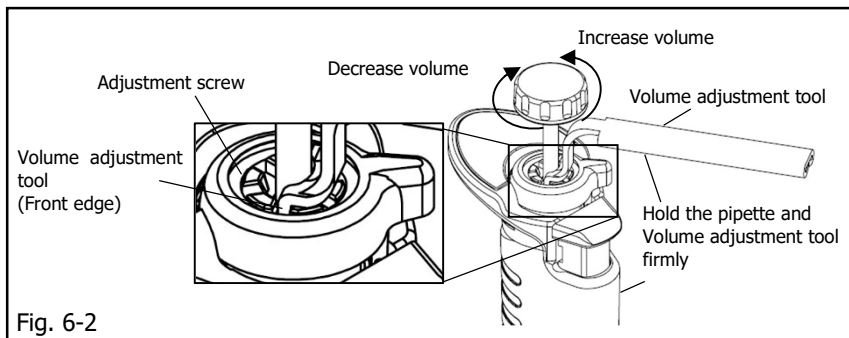

Fig. 6-2
- 4) Hold the pipette in one hand so as not to rotate the volume adjustment tool, and rotate the push button clockwise to decrease the volume for 5 μL with watching the volume indicator. (In case the actual measured dispensing volume is more than 100 μL , it shall be rotated counterclockwise) (Fig. 6-2)